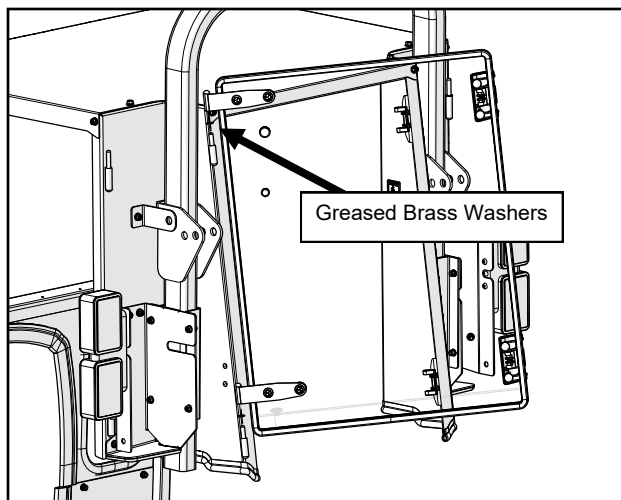

Fig. 8.2 (Install the Rear Window)
8.2 Hang the rear window. See Figure 8.2.